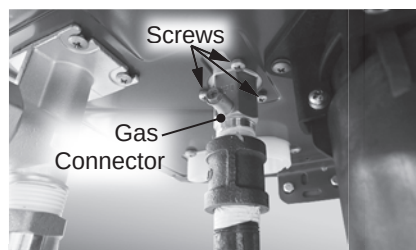

Figure 62 - Gas connector location
- 3 Locate the gas connector on the bottom of the water heater. See Figure 62. Disconnect the gas line to the water heater.
- 12** Locate the three (3) screws securing the gas connector to the base of the base of the cabinet. Use a Phillips screwdriver to remove the screws and place them aside in a safe place for reinstallation. See Figure 62.